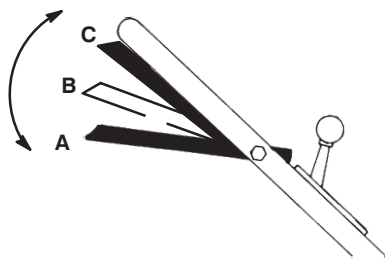

Figure 13
1. Have the blade control bail in the **A** position (Fig. 13).
2. Slide the blade control bail to the right and raise it to the **B** position to engage the blade (Fig. 13).
3. Squeeze the blade control bail against the handle to the **C** position to drive (Fig. 13).